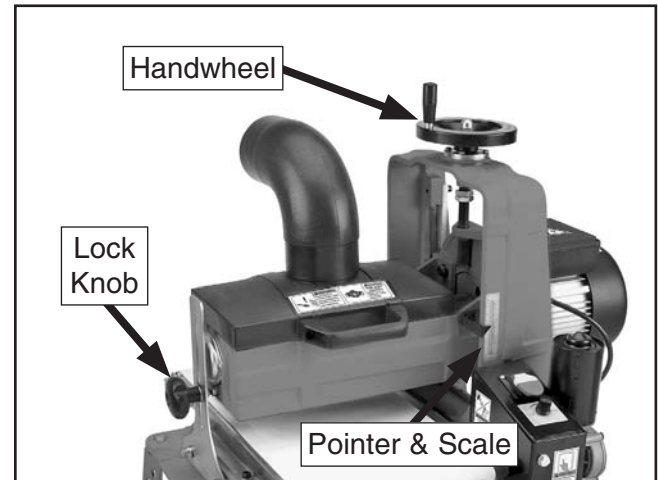

Figure 24. Elevation controls.
1. Loosen the elevation lock knob (see **Figure 24**).